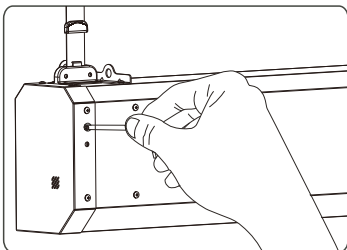

Figure 24
- a.Upper limitation adjusting. Take off the knob from the hole and use the provided allen key to adjust (figure 24). A clockwise adjustment will retract the screen (The distance between the screen and installation position will decrease) and a counter-clockwise adjustment will extend the screen (The distance between the screen and installation position will increase).